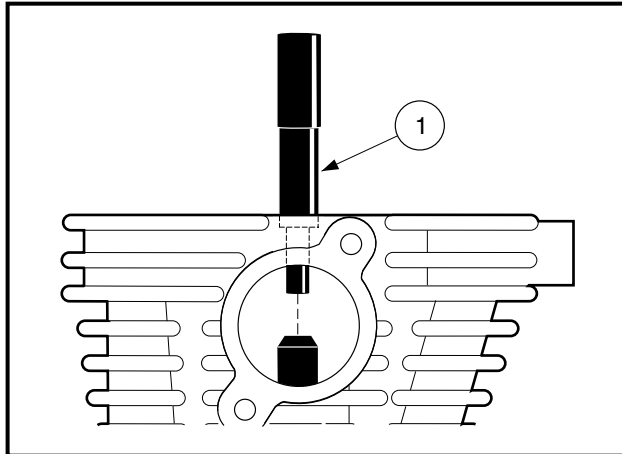

Figure 13-20 Valve Guide Removal
1. With the combustion chamber side of the head facing up, drive the guide out of the head with a valve guide arbor (1) (CCI P/N 101641202) (**Figure 13-20, Page 13-14**).